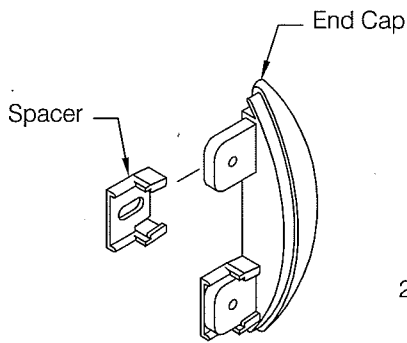
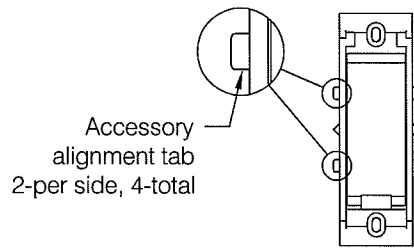
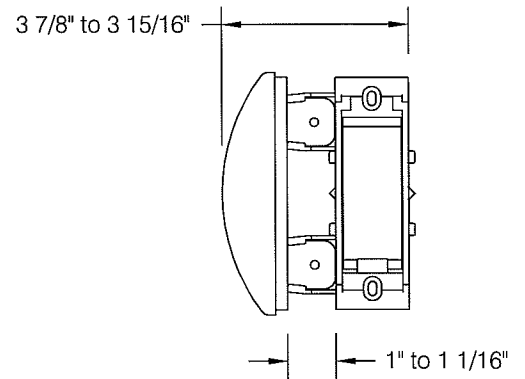

fig 4
fig 5
fig 6
Step 3: A Red-E-Clip® must be installed adjacent to each molded accessory. Begin by installing a spacer on each of the accessory mounting tabs, see **fig 4**. The Red-E-Clip® has four accessory alignment tabs used to facilitate positioning of the molded components with respect to the clip, see **fig 5**. Temporarily locate the accessory and Red-E-Clip® combination by holding them temporarily in their desired position. Remove the accessory and fasten the Red-E-Clip® in place. It is also possible to locate the clip by measuring 3 7/8" to 3 15/16" from the outer edge of the desired accessory location or 1" to 1 1/16" from the inner edge, see **fig 6**.